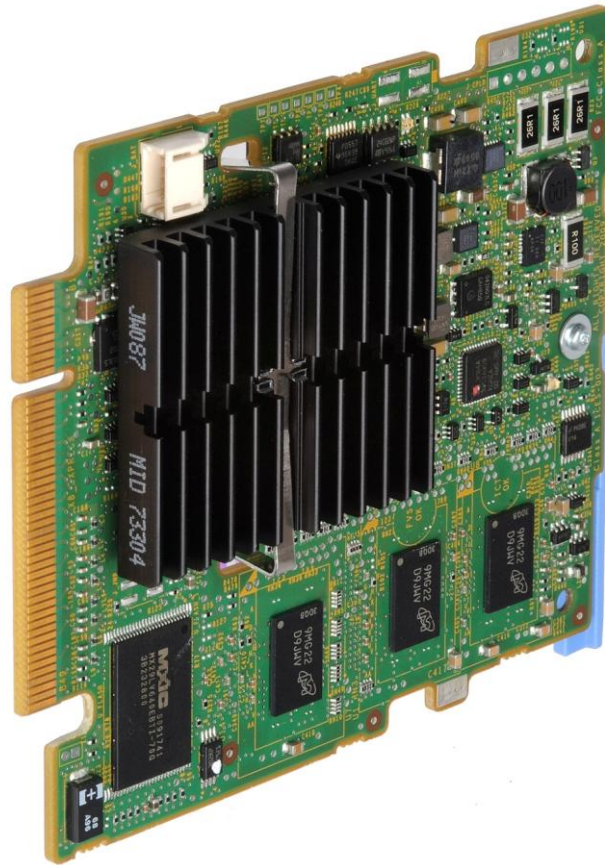

Figure 2. PERC H700 Modular
- The PERC H700 Modular card with one x4 internal SAS port and a BBU supports the PCIe 2.0 x4 host interface. The PERC H700 Modular card is installed in the integrated slot in the blade server platforms. See Figure 2 for a view of the PERC H700 Modular card.